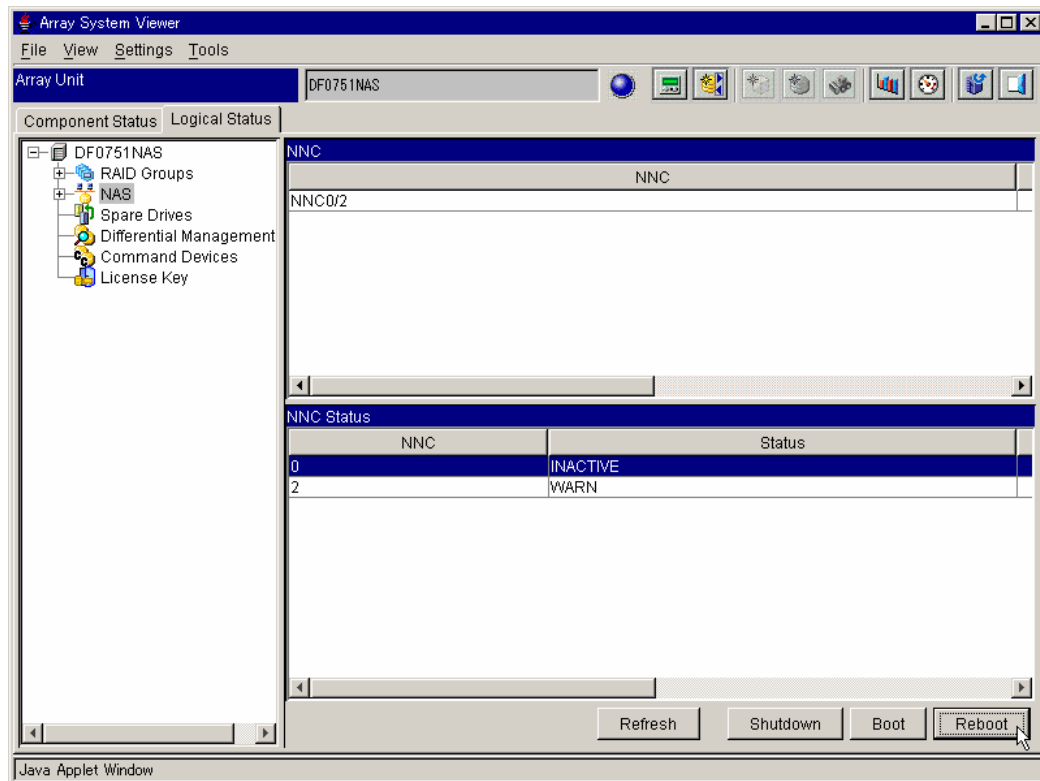

Figure 10.17 Array System Viewer - NNC Status list
2. Select the **NAS** icon, and then select the **NNC** number on the **NNC Status** list. See Figure 10.17.